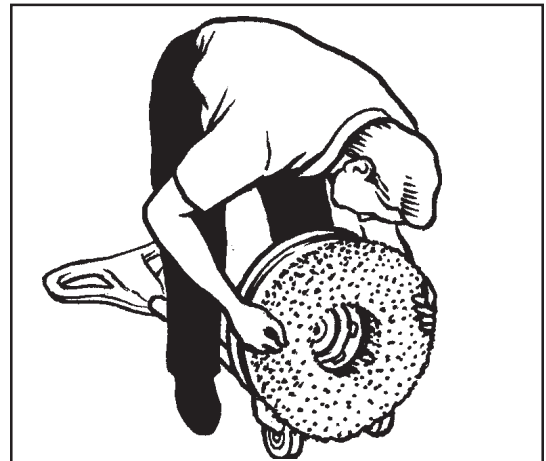

Figure 2
3. Tilt the machine backward until the handle is on the floor. See figure 2.
4. Put one foot on each side of the machine. See figure 2.